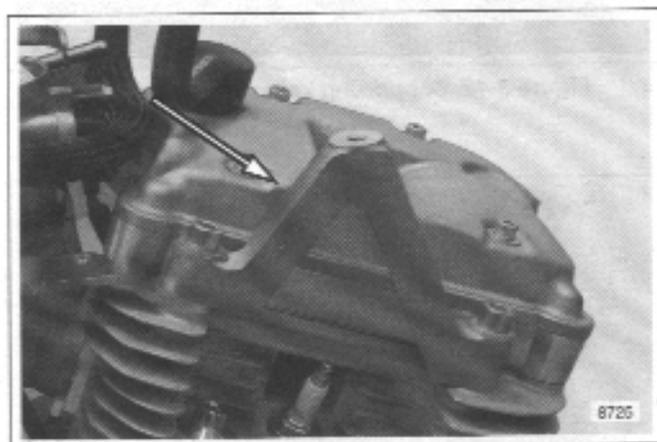

Figure 3-36. Center Tie Bar Mount
- b. See Figure 3-36. Center tie bar mount 25-27 ft-lbs (33.9-36.6 Nm).